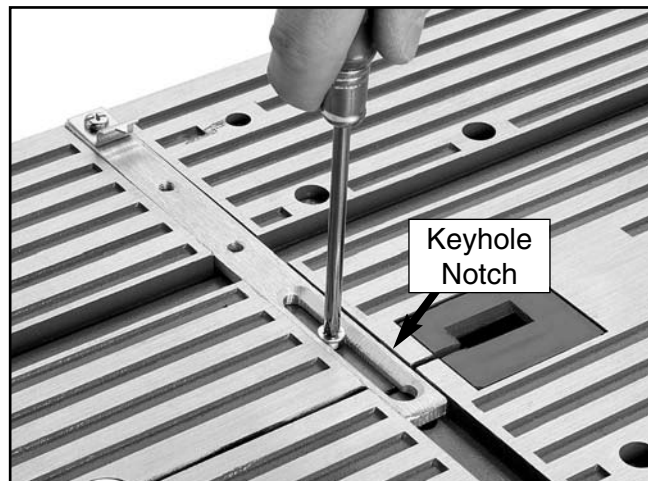

Figure 7. Loosening the screw that secures the miter bar to the table.
1. Loosen the screw that secures the miter bar to the table (**Figure 7**). DO NOT remove the screw.
2. Slide the miter bar keyhole notch (**Figure 7**) off of the screw loosened in **step 1**.